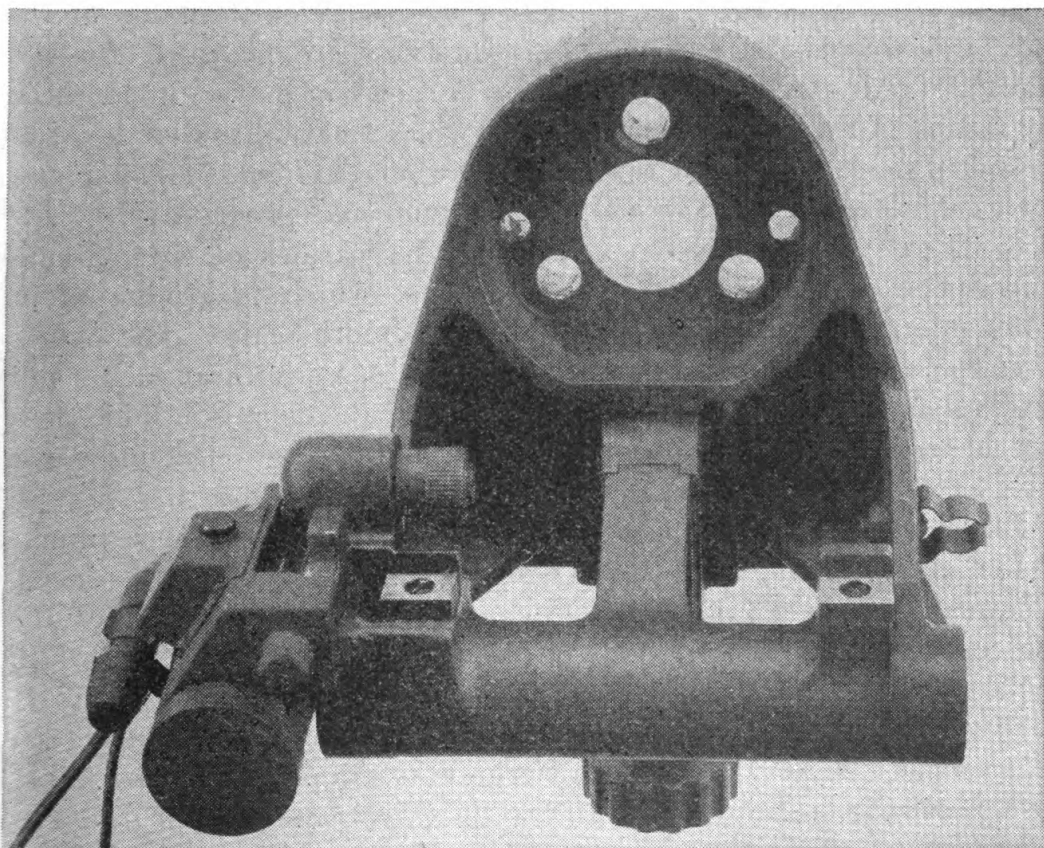

FIGURE 45.—Quadrant mount M1 with instrument light M12.
**56. Mount, quadrant, M1.**—*a. Description and operation.*—The quadrant mount M1 (fig. 45) is used in conjunction with a gunner's
**57. Light, instrument, M12.**—*a. General.*—The instrument light M12 (fig. 45) is used with the quadrant mount M1 to illuminate the cross level on the mount and gunner's quadrant for night operation.
*b. Description.*—(1) The instrument light M12 is a compact light complete with battery, switch, and a hand light connected to the battery by means of a rubber-covered wire.
(2) The instrument is attached to the mount as shown in figure 45, by slipping the bracket over the cross level and the lug adjacent to